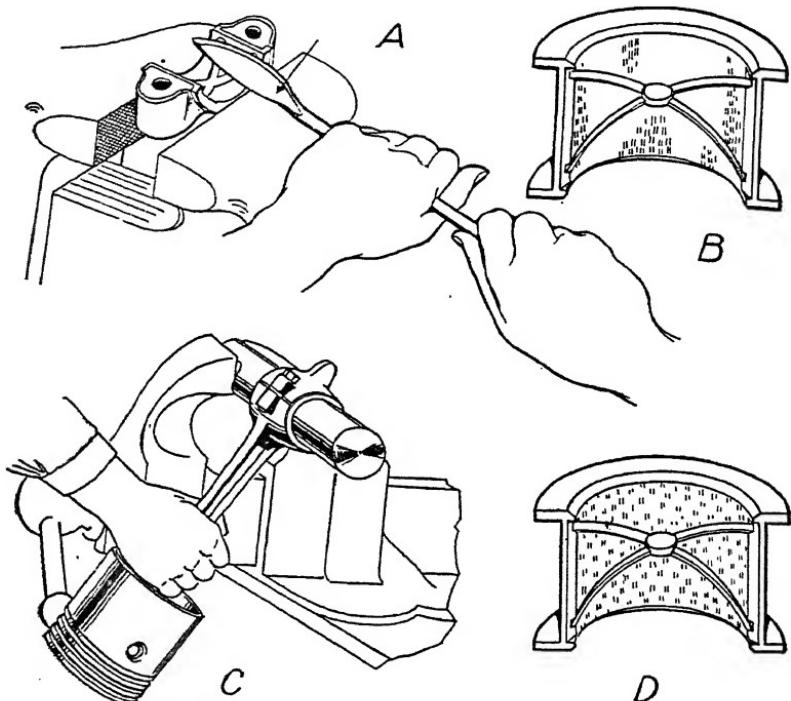

Fig. 11. A—Method of Scraping Rod-Bearing Cap
When fitting connecting-rod bearings by scraping, it is absolutely necessary to have the crankshaft at hand, or a mandrel which is exactly the same size as the crankshaft, to which the bearing may be fitted as the work proceeds. Fig. 11 illustrates one method of mounting a mandrel in a vise so that the work of bearing fitting may be carried on with the best results. The crankshaft is not always out of the engine, however, and if the workman does not want to crawl in under the engine and out many times, he should provide himself with a mandrel, Fig. 11 at C, the exact diameter of crank pins.
on the bearing will receive an impression from the blue on the crank-shaft or mandrel, with the result that an impression similar to that shown at *B* in Fig. 11 is secured. It will be noted that the impression is not evenly distributed and there are certain high points. It is desired to have the impression evenly distributed as shown at *D*. To this end it is necessary to use the bearing scraper to reduce the
*Scraping the Bearings.* The first thing to do when starting the bearing scraping work is to clamp the bearing cap or the connecting rod in the vise, as suggested at *A* in Fig. 11, being very careful not to grasp the cap in such fashion that the ends of the soft bearing metal are damaged. Not infrequently the inexperienced mechanic will use the vise to hold the bearing cap in such a manner that considerable damage is done to the bearing metal. It must not be permitted. To do so invites disaster and is the sign of a careless workman.
removed this first cut, the impression is then made; after which a scraper is used to reduce those high points which appear on the surface of the metal indicated at B in Fig. 11.
After scraping off the high points of the first impression, another impression is made and again the high points are scraped off. This work proceeds until a perfect bearing is secured, as illustrated at D in Fig. 11. Considerable experience is required to develop skill in
*Testing Fit of a Scrapped Connecting Rod.* After the work of scraping has proceeded to a point where the job is practically finished, then the mechanic will give consideration to the exact fit of the connecting-rod bearings on the crankshaft. Not too much drag must be in evidence. In the case of the full forced feed, the best mechanics recommend that the fit be such that if the connecting rod and piston are pulled up, as indicated at *C* in Fig. 11, to a horizontal position, the weight of the piston and rod will be sufficient to carry the rod downward. The use of the shim method of checking clearance is recommended where an exact fit is desired.
**Caution.** Keep an exceedingly close lookout for false bearings when fitting connecting-rod bearings. A false bearing may be secured if the edges of the bearing are not properly scraped away so as to fit them to the fillet of the crank pin and shaft. For instance if an arbor is used, as suggested at *C* in Fig. 11, the fillet would not be taken into consideration; and when the rod was assembled on the crank pin, it might be felt that a good fit was secured when as a matter of fact the bearing would be altogether on the slight portion which struck the fillet of the pin.